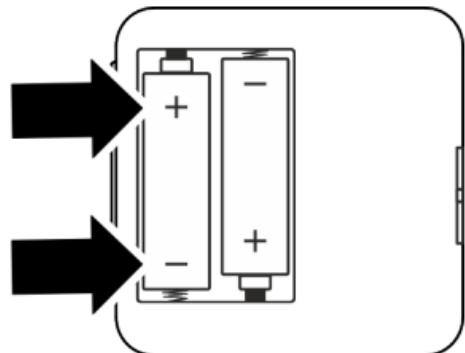

Fig. 4: Inserting the battery
6. Insert the two alkaline batteries of type 1.5 V AA LR6 into the housing cover, ensuring the correct polarity (Fig. 4).
8. Insert the two alkaline batteries of type 1.5 V AA LR6 into the housing cover, ensuring the correct polarity (Fig. 4).